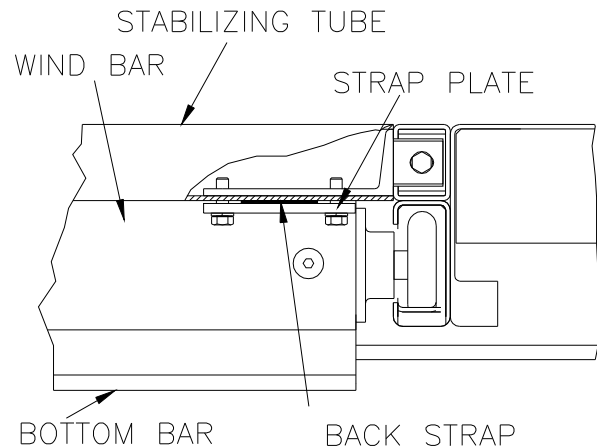

FIG. 13B
- b. Attach Wind Bar Straps to Wind Bar (Figure 13b).